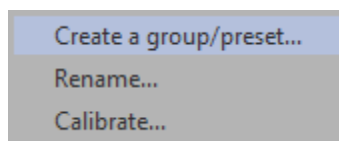

Figure 6 : Devices Context Menu
Perform a calibration by selecting a single device from the devices list ① and clicking the right mouse button to open the context menu. Choose “Calibrate” from the menu as seen in Figure 6 : Devices Context Menu.